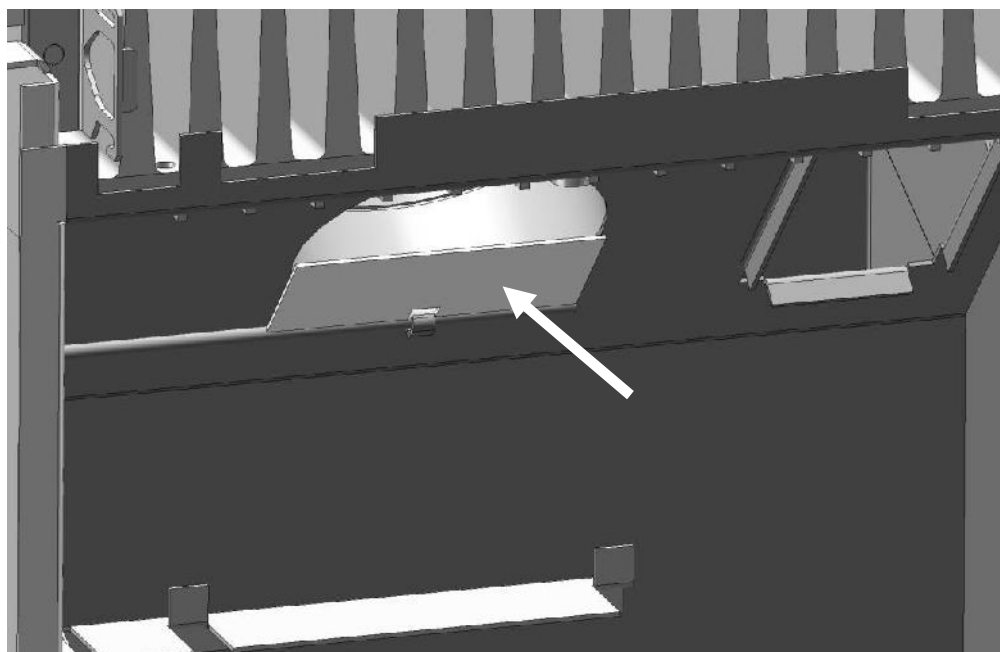

Figure 19 - Restrictor Fully Closed Detail (baffle removed for clarity)
-  Vertical terminations may require additional restriction in order to perform as intended. Please refer to Figures 19 - 21 to adjust your vent restrictor accordingly
The restrictor plate is used to control excess draft if necessary. Controlling the draft also changes the aesthetics of the flame. The restrictor plate has a large range of unlimited settings (see *Figures 19 & 20*). The adjustment point is on the left side of the firebox (from front).